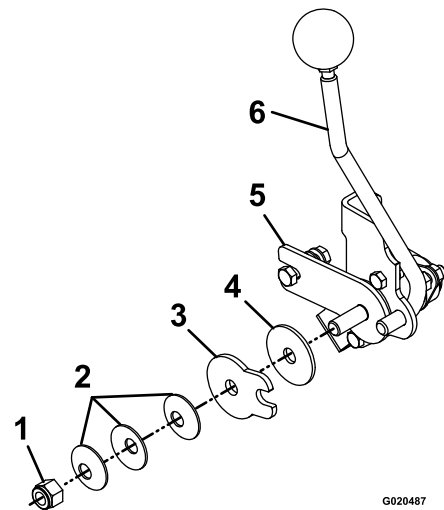

Figure 53
3. To adjust the tension, adjust the pivot nut, which is located at the end of the motion-control shaft in front of the right console (Figure 53).